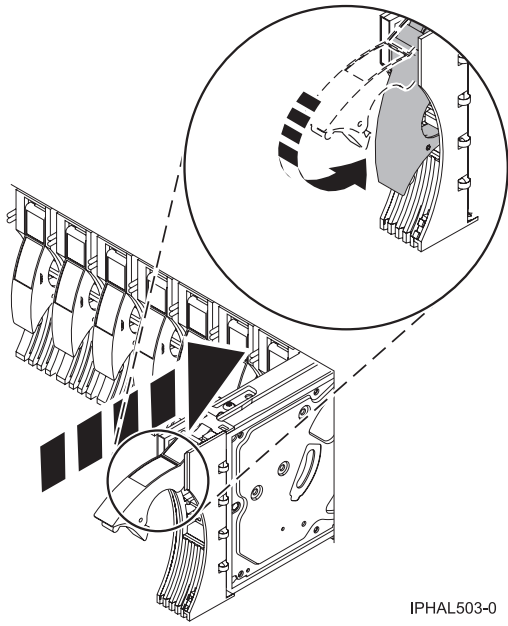

Figure 21. Installing a disk drive in a system
18. Slide the disk drive into the system unit until it stops, as shown in Figure 21 on page 24.